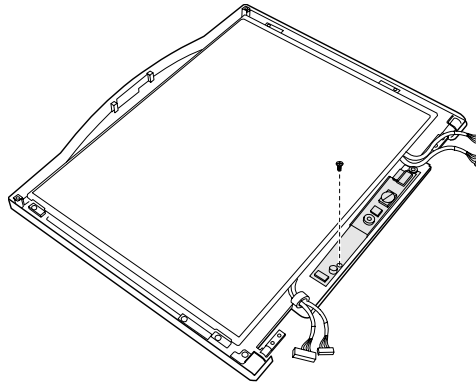

FIGURE 7-26. REMOVING THE INVERTER BOARD
1. RECONNECT THE CONNECTORS. FIT THE INVERTER BOARD BACK INTO PLACE AND SECURE WITH ONE SCREW. (REFER TO FIGURE 7-26 EARLIER).